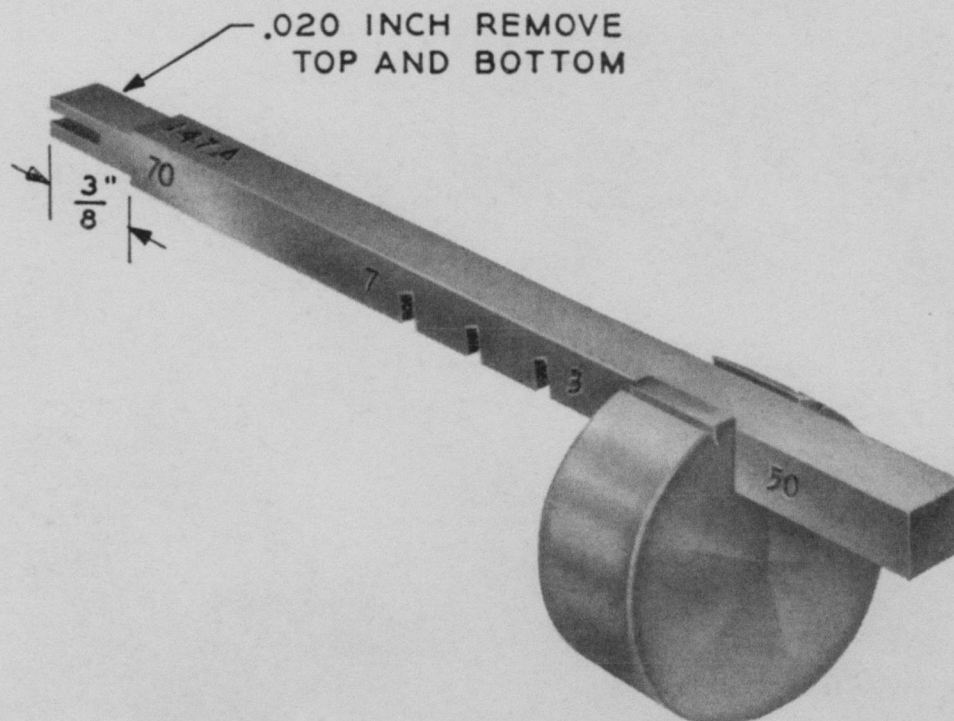

Fig. 22—Modified 147A Gauge
5.02 Add new sentence as follows: The 147A gauge has been modified as shown in Fig. 22. The older 147A gauge may be modified in the field as shown in Fig. 22.